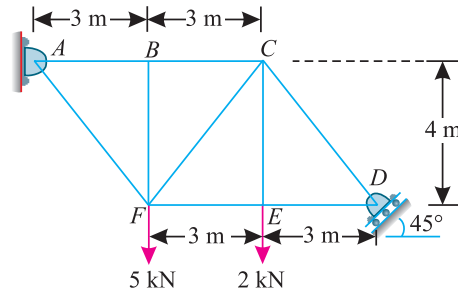

Fig. 14.49.
**Example 14.20.** A truss hinged at A and supported on rollers at D is loaded as shown in Fig. 14.49.